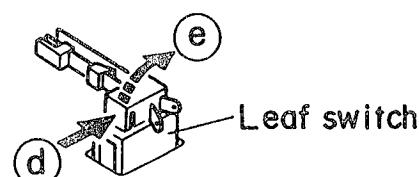

Fig. 2-20
■ Leaf switch (Fig. 2-20)
Press the leaf switch in the direction of the arrow ⑥ and then remove it in the direction of the arrow ⑦ referring to Fig. 2-20.